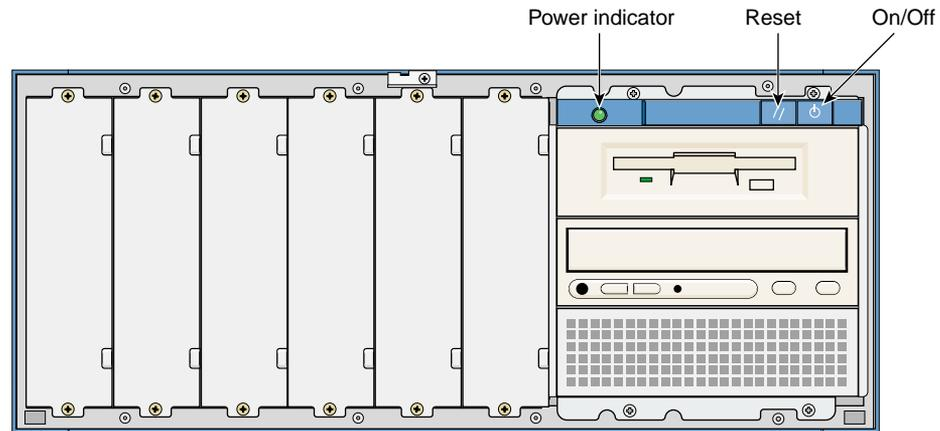

Figure 4 Node Front Panel Controls and LED
10. Turn on the master node, which is the lowest node in the rack. The green power indicator LED on the front panel illuminates. Figure 4 shows the front controls and the power status LED.